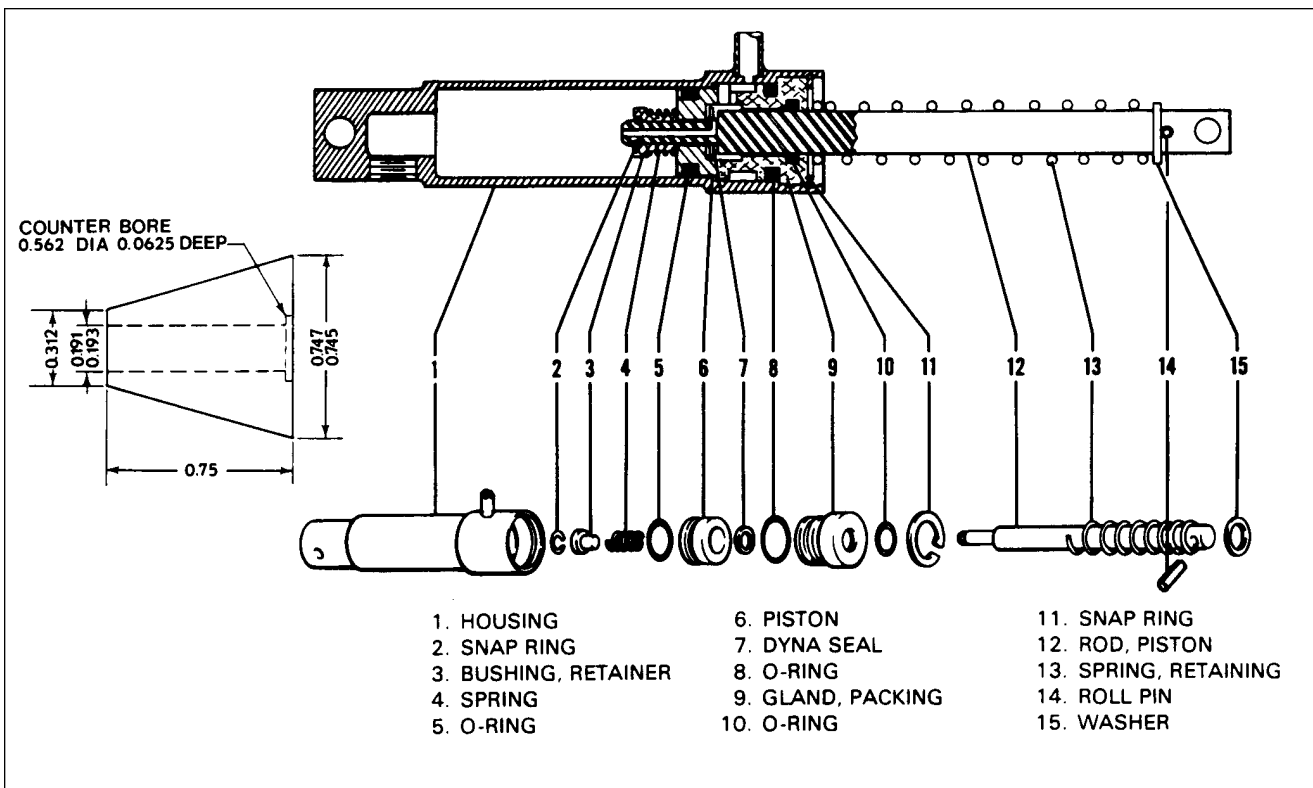

Figure 32-15. Brake Master Cylinder (Hand/Parking Brake)
1. Install new O-ring on inside and outside of packing gland and on outside of piston. (Use a cone placed against the piston when installing Teflon O-ring on piston. The cone may be plastic or metal with dimensions per figure 32-15.)